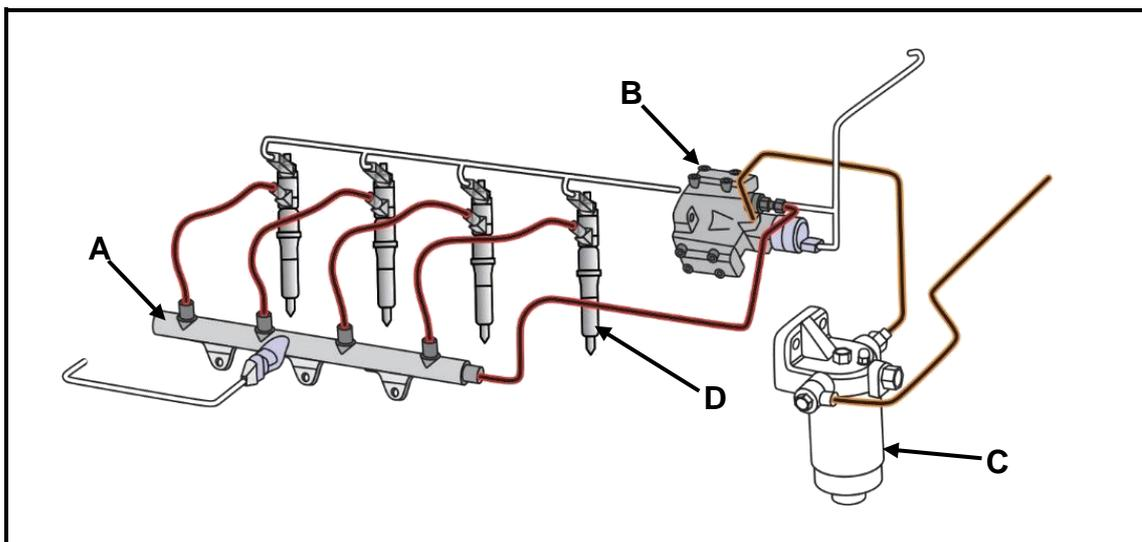

FIGURE 10.7
- 10.7 Label **A–D** of the common rail direct injection (CRDI) system shown in FIGURE 10.7 below.